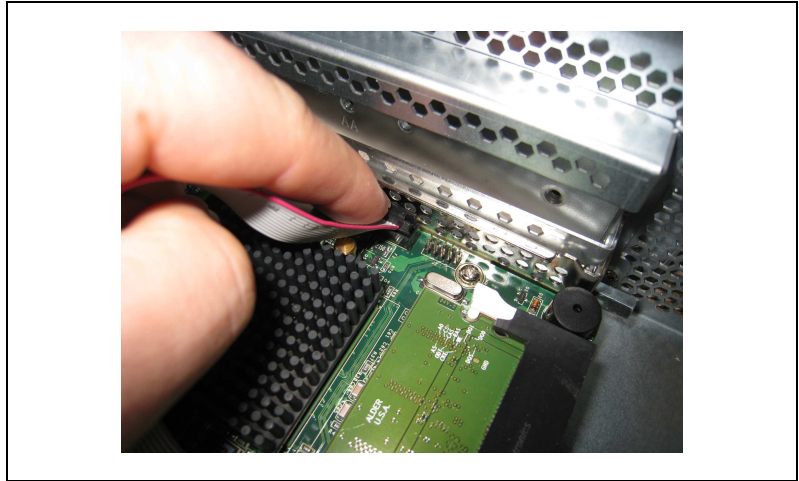

Figure 5. Inserting the Ribbon Cable into the RAID Card
4. Insert the other end of the ribbon cable into the 12-pin connector labeled **BATTERY** on the chassis preinstalled RAID card, as shown in Figure 5.